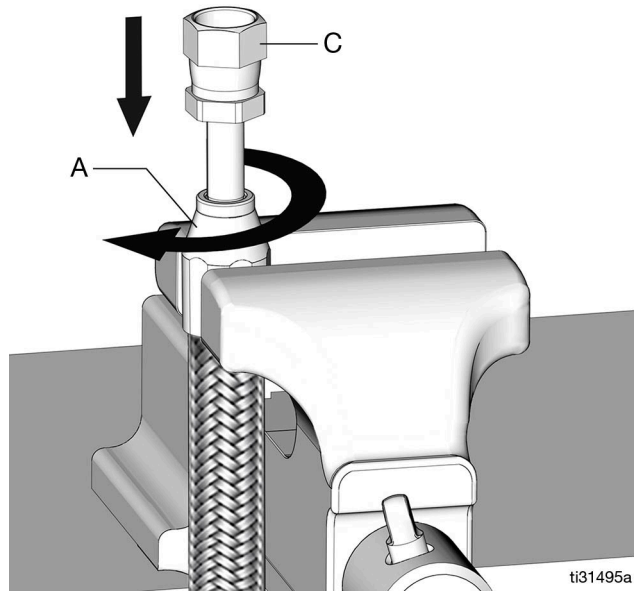

FIG. 68
7. Lightly push the nipple (c) into the socket (a). Screw the nipple clockwise into the socket and hose (FIG. 68).